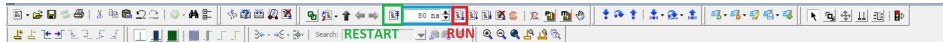

Fig. 2.12: Selecting Run Length (80ns).
11. The *Wave* window will appear. Select the run length (80 ns) as shown in Fig. 2.12.
13. If you want to restart your simulation, then click on *Restart* icon (Fig. 2.12).